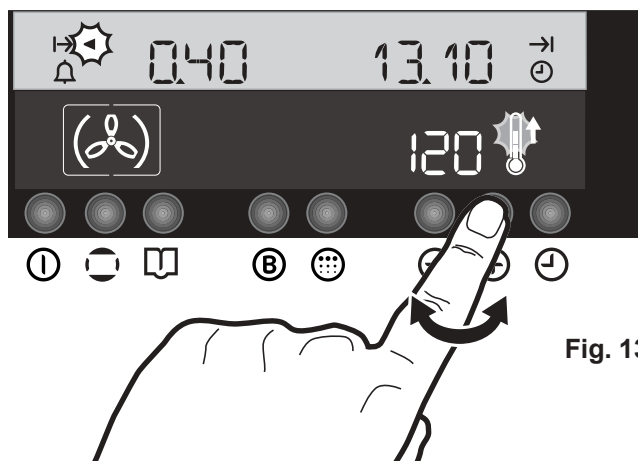

Fig. 13
3. Symbol  will flash for 5 seconds. Within this time, press button  to select the required time. Maximum time is 23 hours 59 minutes. Note that the time indication on the right hand will also change as you press button , showing at which time the oven will automatically switch off (fig. 13).